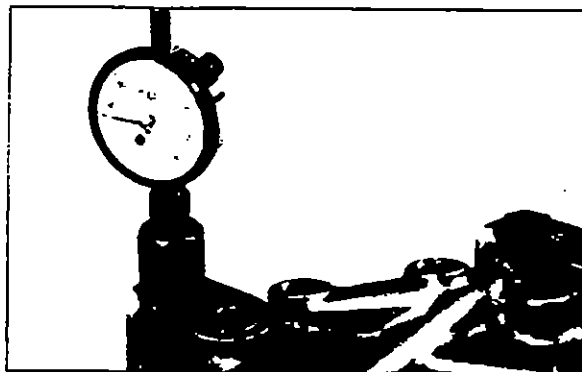

Fig. 1.5.9
2. Install the dial indicator assembly into the trigger valve bore (see Fig. 1.5.9). Hand tighten, metal to metal contact only.